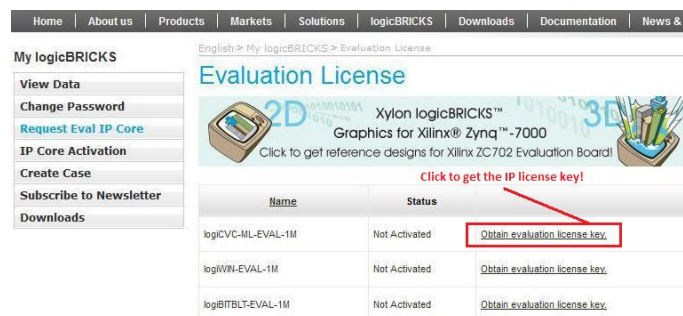
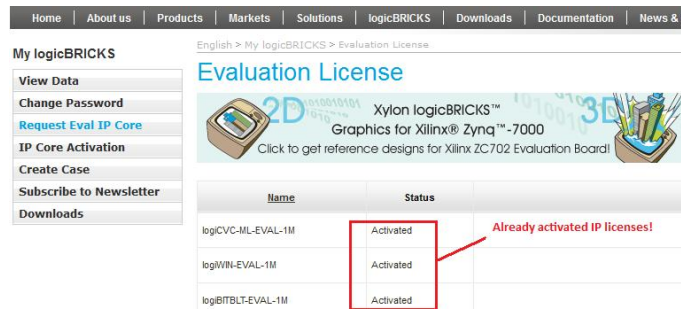
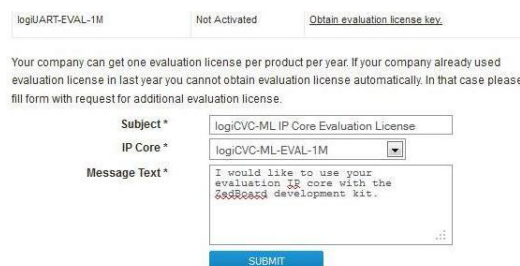

Figure 16: Step 2 – Selecting logicBRICKS IP Core for Licensing
Figure 17: Step 2 – A List of Already Activated logicBRICKS IP Licenses
Figure 18: Step 1 - Licensing logicBRICKS Evaluation IP Cores
Step 2 - Select the evaluation logicBRICKS IP core and click on “Obtain evaluation license key” link – Figure 16. If you are entitled to get the evaluation logicBRICKS IP core, you will be immediately asked (Figure 19) your Ethernet MAC ID number or Sun Host ID – as described in the Step 3.
If the evaluation logicBRICKS IP cores’ list looks differently from the one shown on Figure 16, for example as the list presented by the Figure 17, please fill in and submit the request form (Figure 18), and allow us some time to process your request. Scroll down to get to the request form.